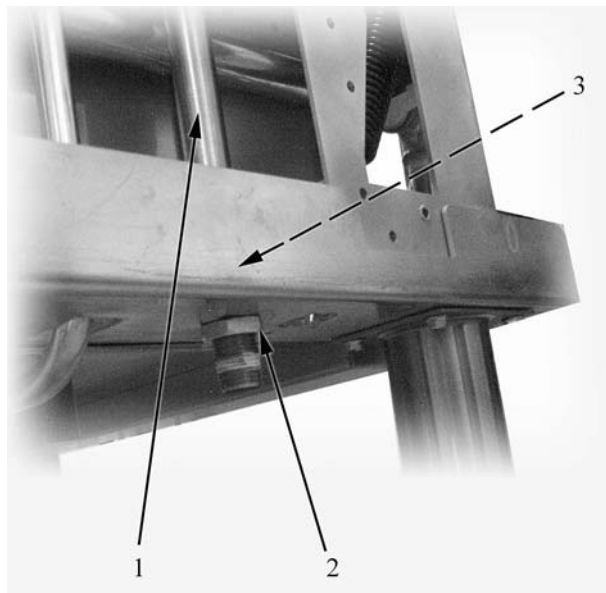

Fig. 23
- unscrew the fixing nut of the water column extension (item 2 in Fig. 23);